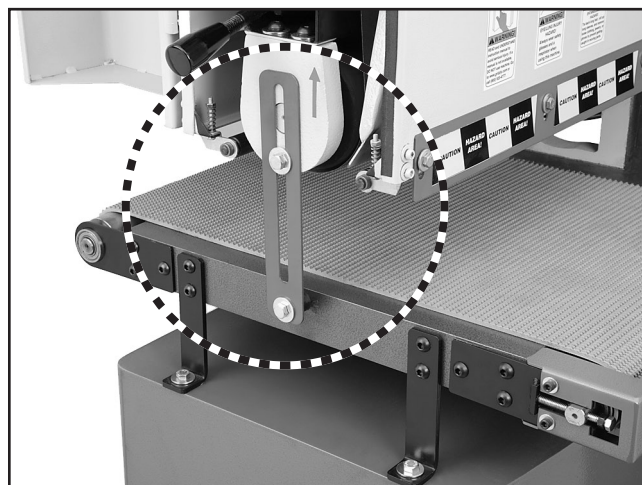

Figure 12. Location of the shipping brace.
7. Open the sanding belt access door on the left side of the machine, and remove the red shipping brace securing the sanding drum and the conveyor assembly (see **Figure 12**).